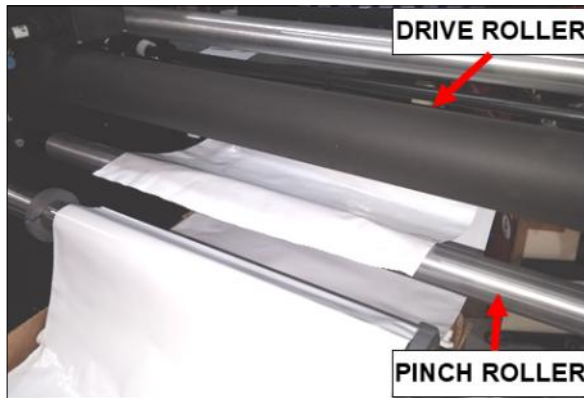

Figure 34A. Web Between Drive & Pinch Roller
3. Next, wrap film around the Outside Drag Film Tube and feed film between Pinch Roller and Drive Roller. **Figure 34A.**